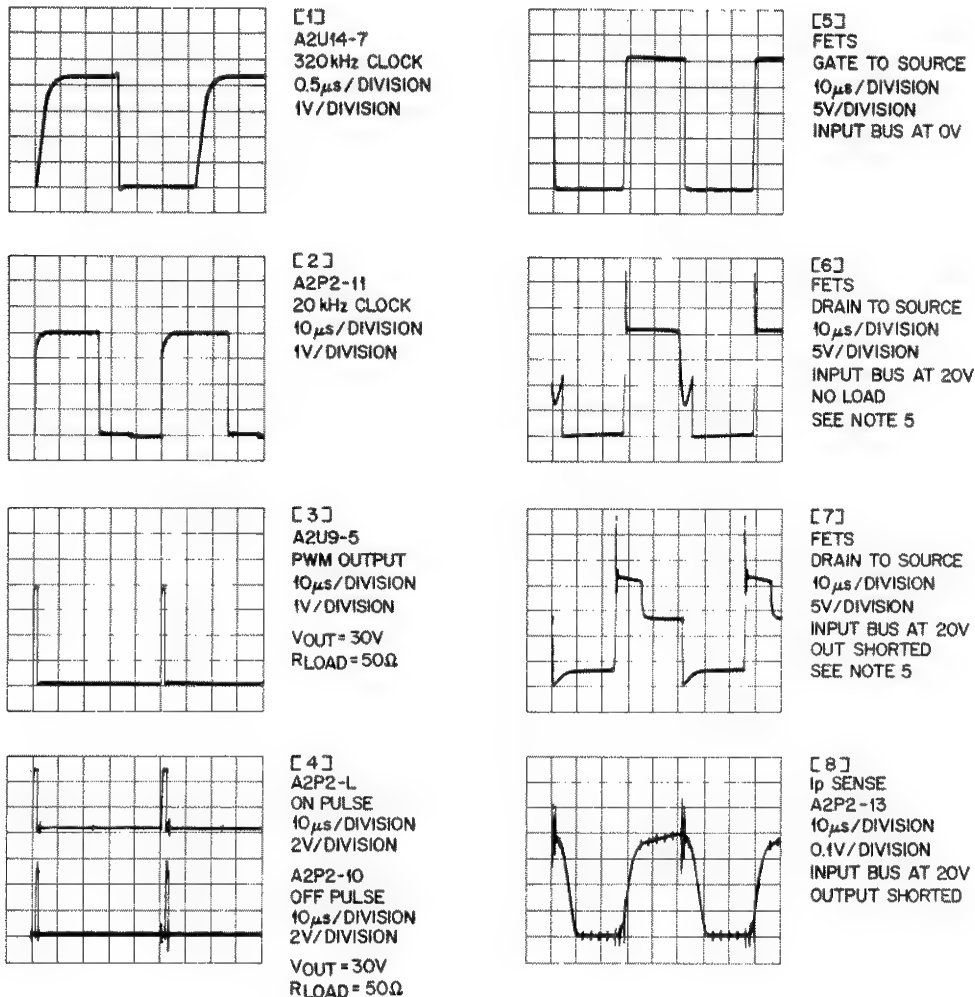

Figure 7-8. Waveforms
- f. Power supply waveforms (Figure 7-8), illustrating waveforms found at key points in the power supply.